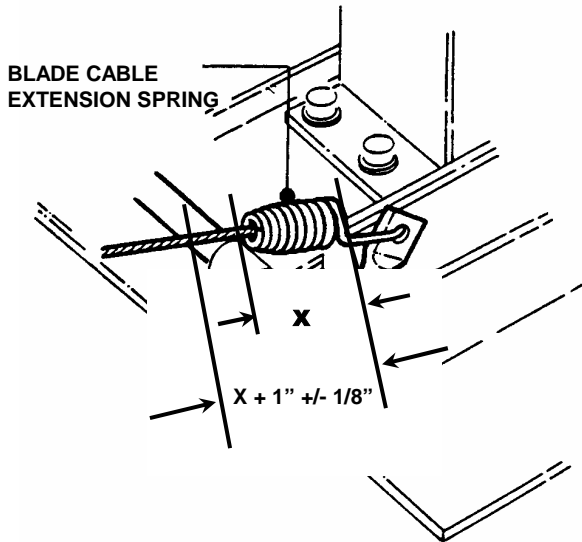

FIGURE 3.3
2. Measure blade cable extension spring. Spring should extend 1" +/- 1/8" for proper belt tension. See Figure 3.3.